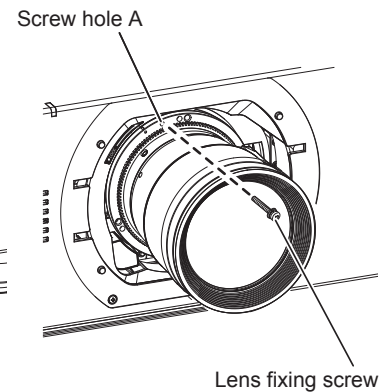

Fig. 3
- 3) Secure the projection lens with the supplied lens fixing screw. (Fig. 3)**